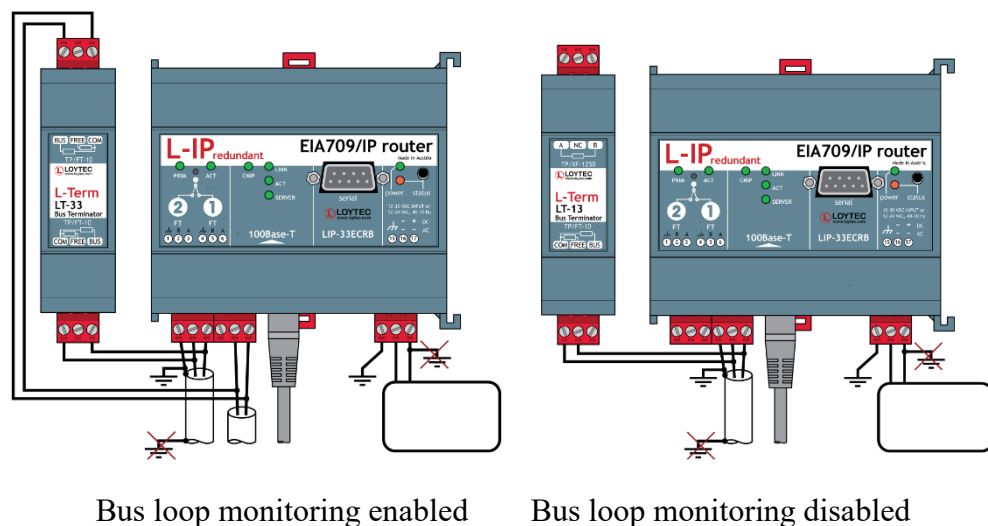

Figure 36: L-IP Redundant with and without Bus loop Monitoring
**Important:** *When using shielded network cables, only one side of the cable should be connected to earth ground. Thus, the shield must be connected to earth ground either at the L-IP terminal (loop port 1) or somewhere else in the network, but never at more than one place (see Figure 36)!*
**Important:** *If operated with bus loop monitoring enabled (loop port 1 and loop port 2 connected), both sides of the loop must be terminated at the L-IP terminals (see Figure 36). In this case two terminators for bus topology must be used.*